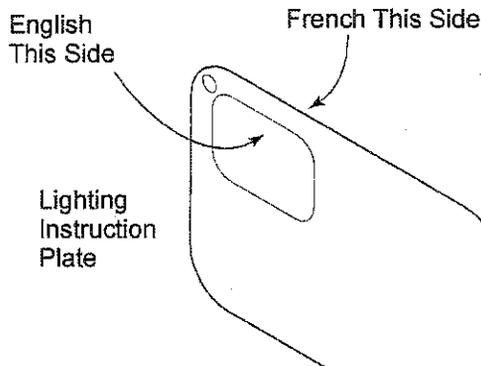

Figure 8 - Applying English and French Conversion Labels Over Existing Certification Labels on Lighting Instruction Plate
1. Apply English and French conversion labels over existing certification labels (see Figure 8). Existing certification labels are located on lighting instruction plate inside gas valve compartment area. With permanent ink, print previous model number on label in space provided (see Figure 9, page 5).